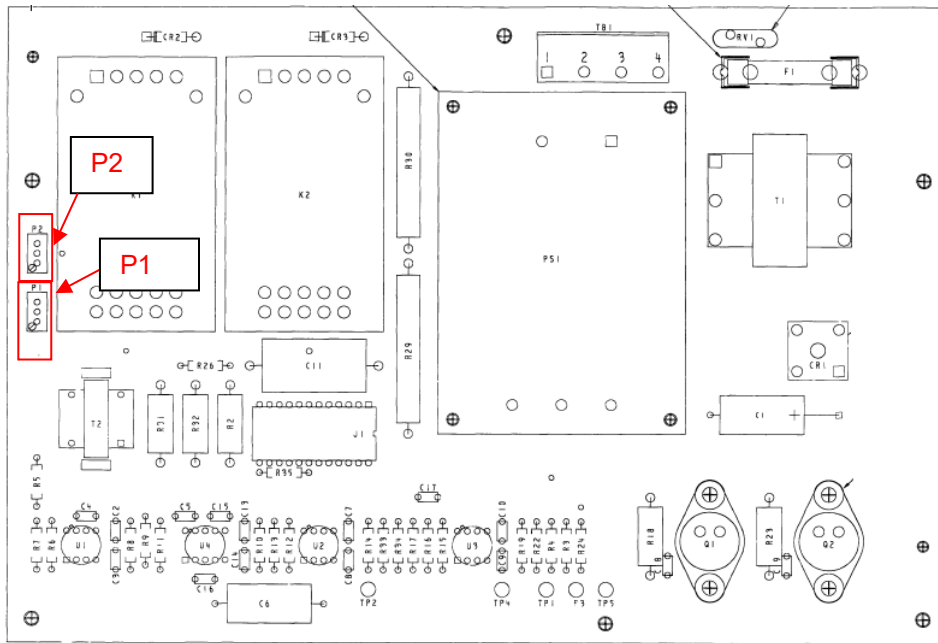

Figure 1-10 Location of P1 and P2
- d) If at 1000 Hz, the brown test point is not 0.437V, adjust P1. Refer to Figure 1-10.